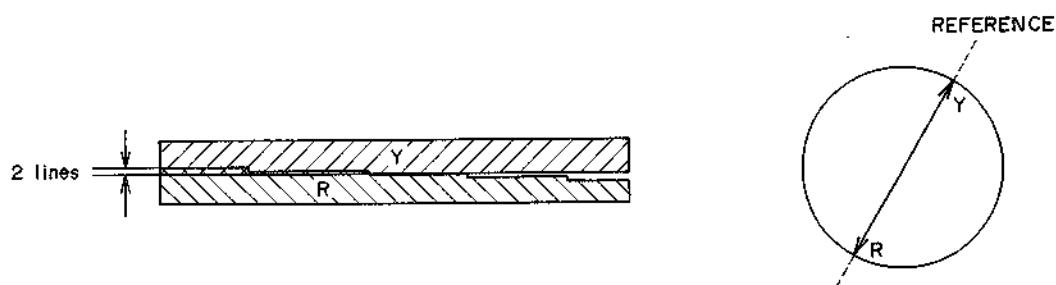

Fig. 4-11
7) After they are correctly positioned, tighten screw (a) only tighten by hand using the special hexagon screwdriver shown in Fig. 4-11.